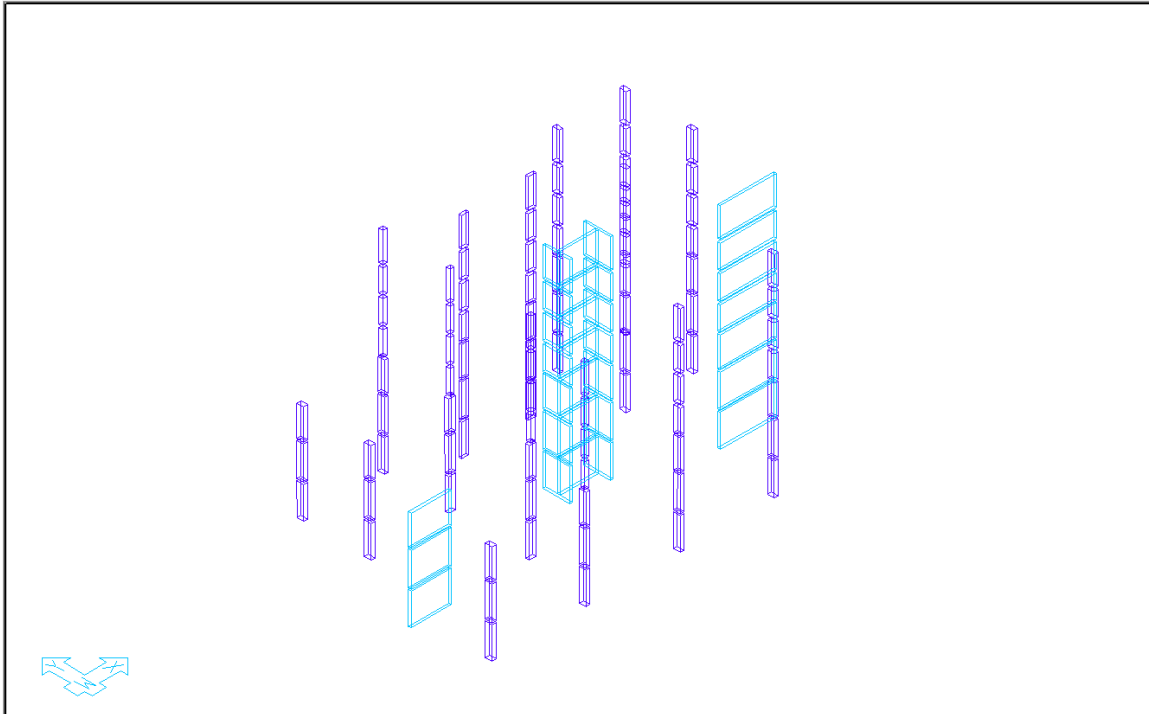

FIGURE 7-22
- You should now see the column and wall stacks as shown in **FIGURE 7-22**.